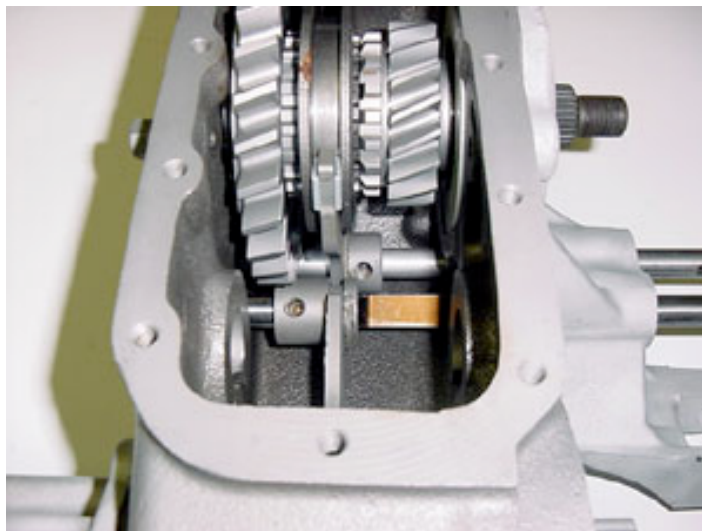

FIG: 16
16) Bolt the housing in place. Install the 2 set screws into the forks using Loctite (Fig.16). You will need to verify shaft endplay at this point. Endplay should be 0.000" on the front output shaft. Do not put excessive preload on the bearing. (-0.0005" preload is acceptable) If endplay must be adjusted, add or delete shims as noted in step 12. Once proper endplay is verified, remove the bearing plate (from step 12), apply sealant, and reinstall. Install the front output shaft seal, rubber star washer, yoke, and nut. Torque to 180 ft-lb.